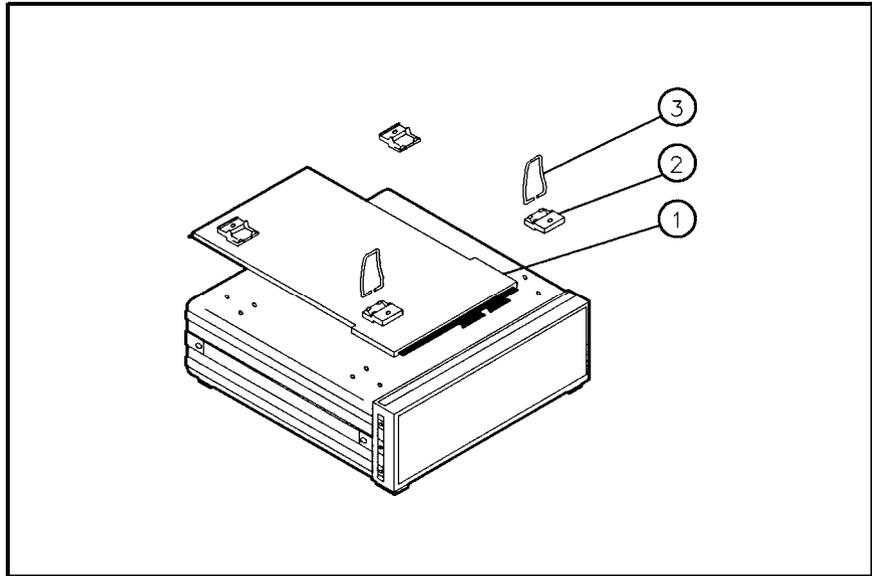

Figure 2-9. Removing the Information-Card Tray
4. Remove the three screws securing each handle, and remove the handles. See ② and ③.
5. The information-card tray located on the bottom of the RF section requires a space of approximately 2 cm below the instrument when rack mounting. See ① of Figure 2-9. (No filler strip is provided.) If you wish to remove the information-card tray, remove the feet and tilt stands (② and ③ in Figure 2-9).